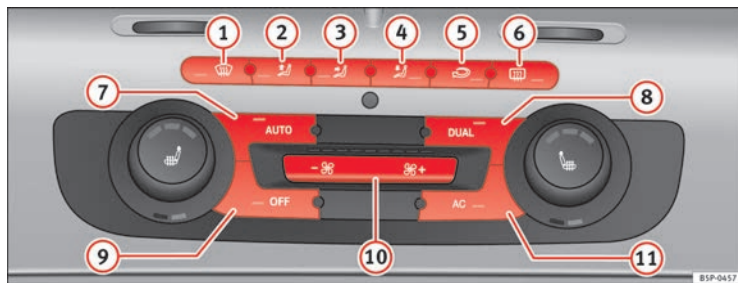

Fig. 131 On the dash panel: 2C Climatronic controls
- Turn the temperature control knobs ⇒ fig. 131 (9) or (14) in order to adjust the temperature on the left hand side or the right hand side respectively.
- Press  ⇒ page 158, fig. 131. “AUTO High” is shown on the radio display (high fan speed).
- Press  again ⇒ page 158, fig. 131. “AUTO Low” is shown on the radio display (low fan speed).